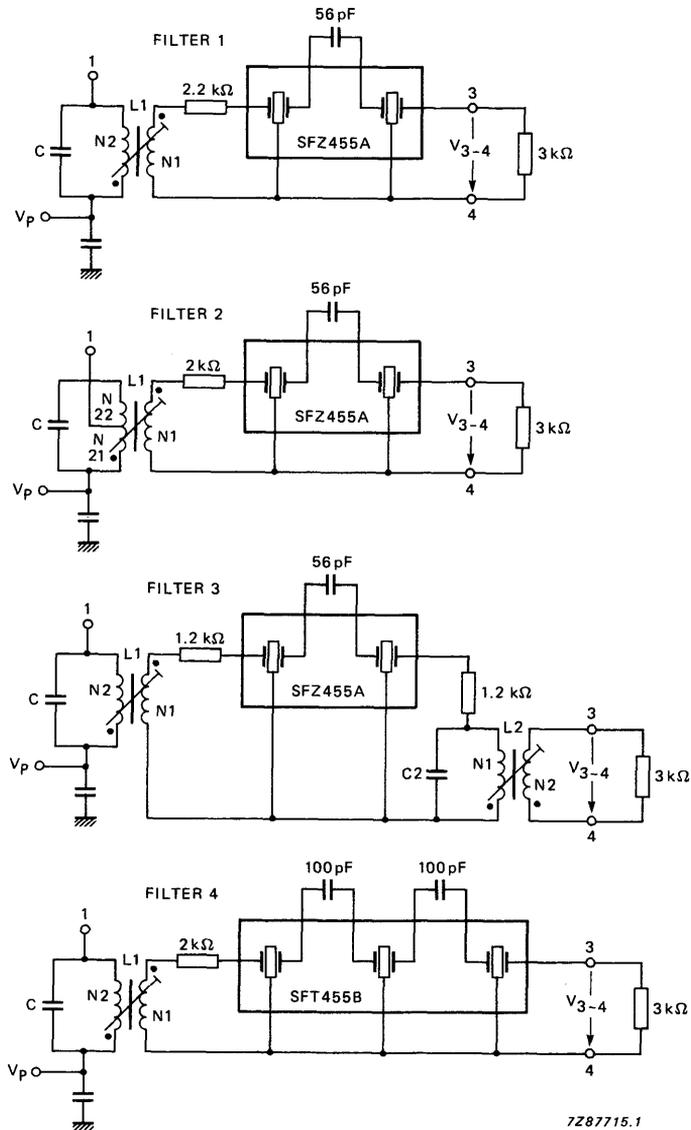
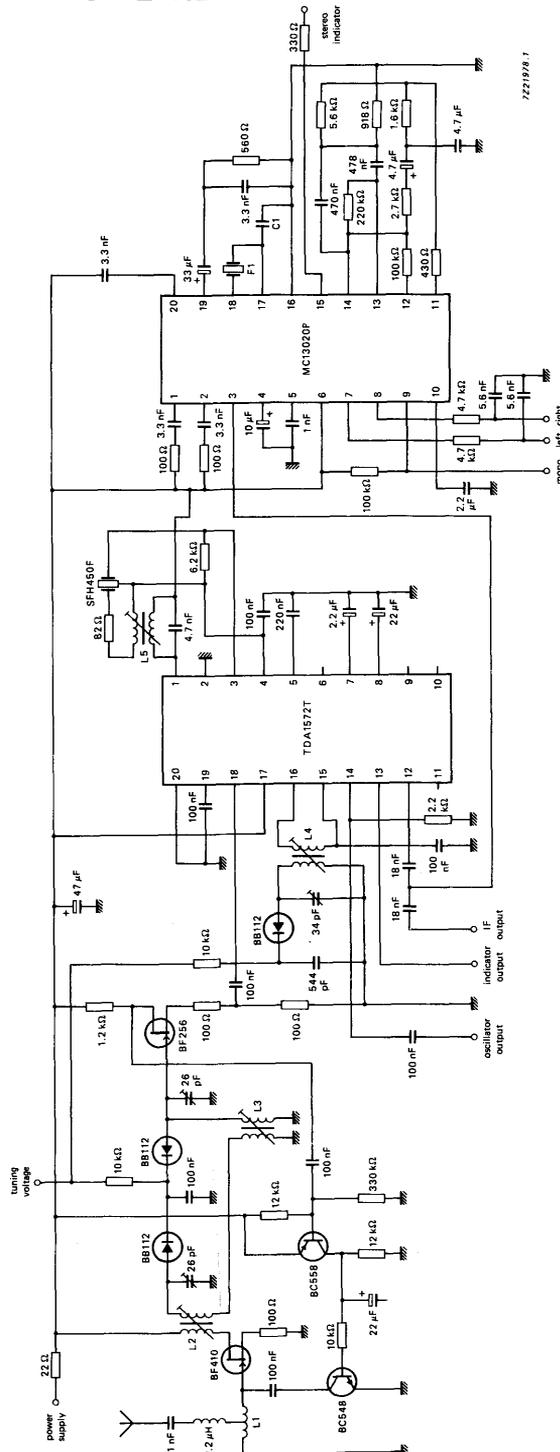

Fig. 10 IF filter variants applied to the circuit of Fig. 1. For filter data, refer to Table 1.
Fig. 11 Application diagram.
**Table 1** Data for IF filters shown in Fig.10 (Filter 1 to 4) and Fig.11 (Filter 5). Criteria for adjustment is IF = maximum (optimum selectivity curve at centre frequency  $f_0 = 455$  kHz). Filter 5 is used for AM stereo application with centre frequency  $f_0 = 450$  kHz.